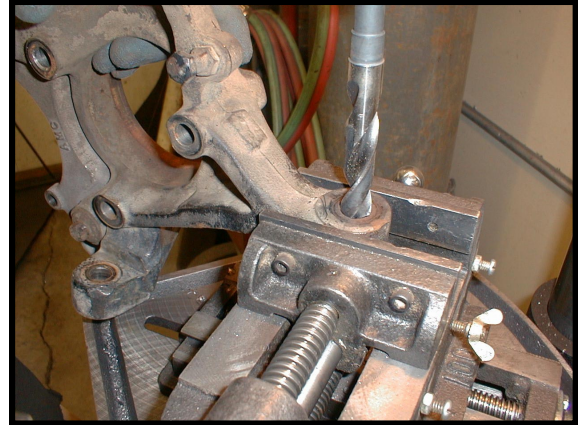

Figure 2
STEP 3: The drivers side knuckle has a tapered hole that the tie rod attached to. This hole must be drilled to 5/8". M.O.R.E.™ has found it best to remove it from the axle housing and place it in a drill press or milling machine for this step. See figure 2. This can be done with a hand power drill and the steering knuckle on the axle housing, if you can drill the hole very accurately. You be the judge.